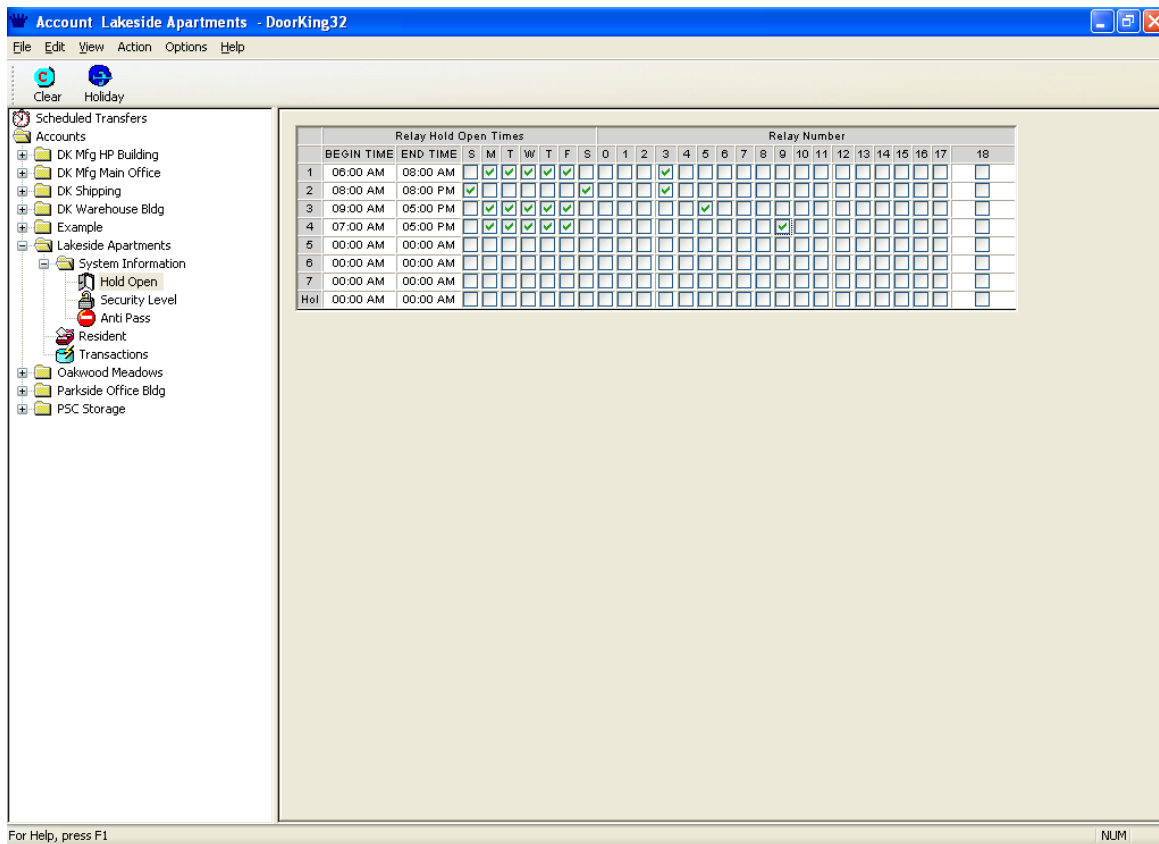

Figure 24
1. Click the relay(s) next to the time zone that you want to apply the time zone to. A check will appear in the box (Fig 24).